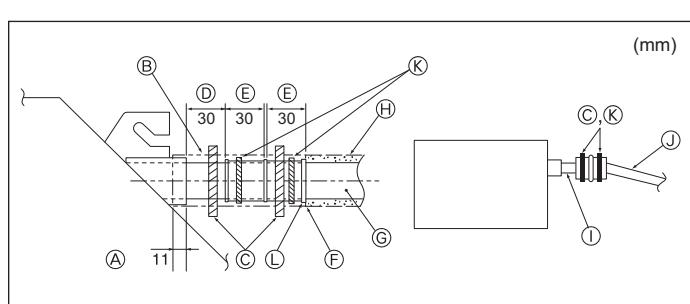

Fig. 3-5
- ⑧ Odor trap
- ⑨ Grouped piping
- ⑩ O.D. ø32 PVC TUBE
- ⑪ Make it as large as possible
- ⑫ Indoor unit
- ⑬ Make the piping size large for grouped piping.
- ⑭ Downward slope (1/100 or more)
- ⑮ O.D. ø38 PVC TUBE for grouped piping.
- ⑯ Up to 500 mm
1. Connect the drain socket (supplied with the unit) to the drain port. (Fig. 3-5) (Affix the tube using PVC adhesive then secure it with a band.)
- ⑰ Unit
- ⑱ Insulating material
- ⑲ Band (large)
- ⑳ Drain port (transparent)